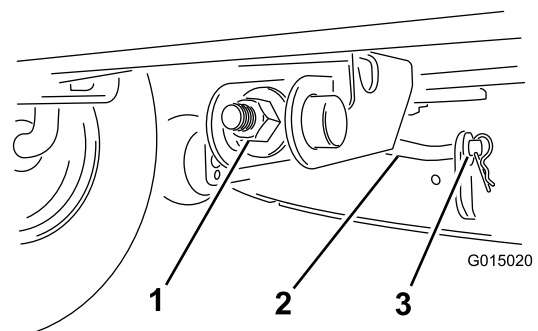

Figure 33
6. Remove the hairpin cotter and washer from the front support rod (Figure 33), and carefully lower the front of the mower deck to the ground.
10. Attach the front support rod to the mower deck with the washer and the hairpin cotter (Figure 33).